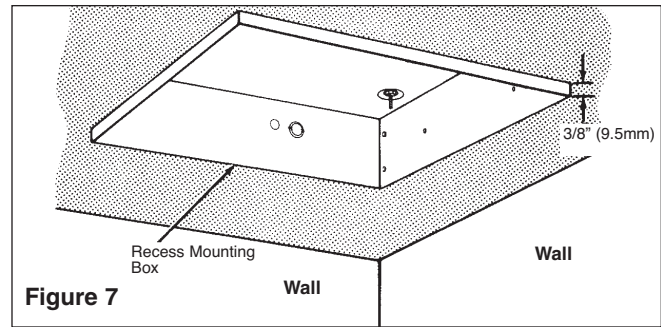

Figure 7
7. Place the recess mounting box in the ceiling opening and align the marks on the sides of the mounting box with the bottom of the finished ceiling (Figure 7). This will position the edge of the mounting box 3/8" (9,5mm) below the ceiling and will allow the recess face plate to lay flat against the ceiling.